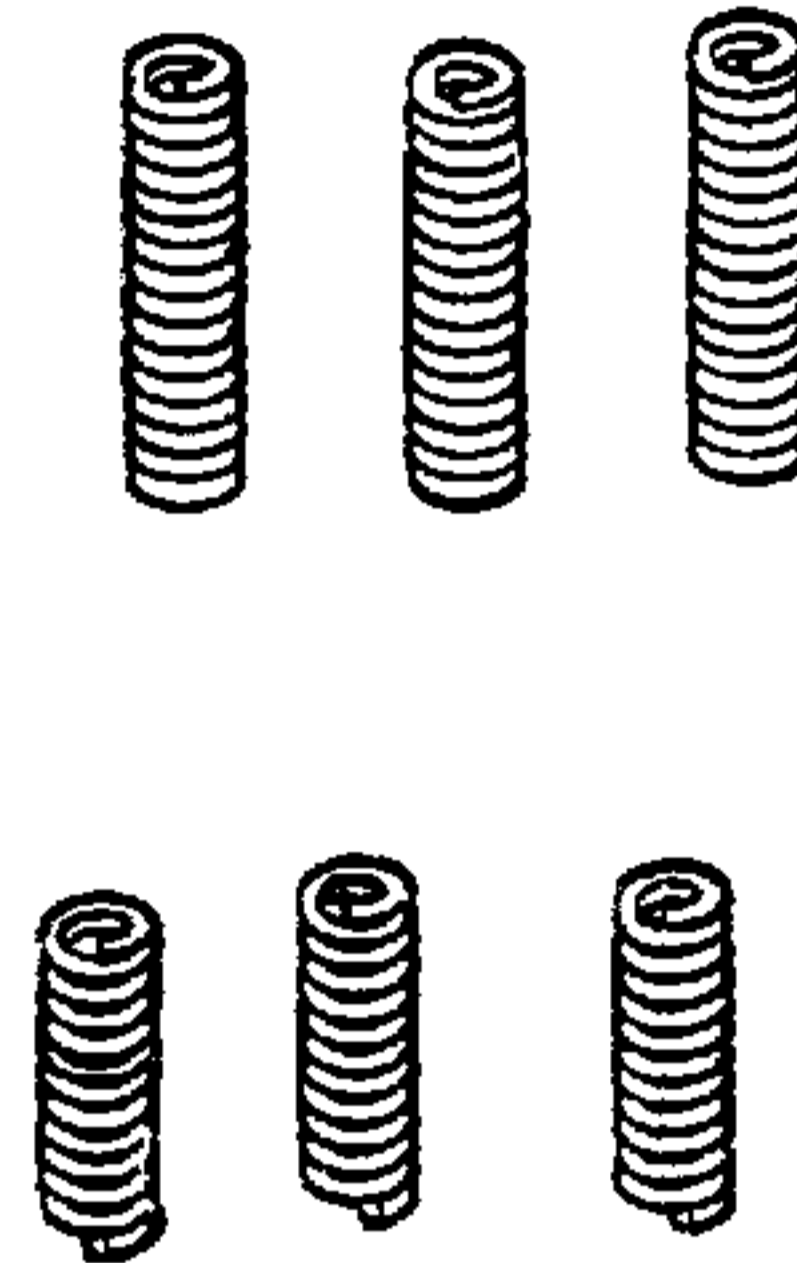

Figure 4-15. Inspecting Springs.
14. Inspect the springs (7 and 8) for bent or distorted coils. If a spring is broken or deformed, all six springs in the unit must be replaced. See Figure 4-15.